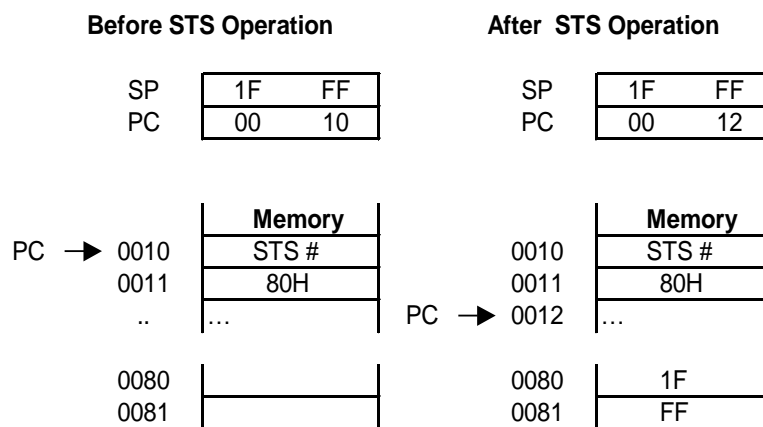

Figure 6.5 - Store Stack Pointer (STS) instruction
**STS** instruction stores the contents of the stack pointer into two contiguous memory locations. This instruction offers direct, indexed and extended addressing modes. The **STS** instruction stores the high byte of the stack pointer into the specified memory address and the low byte into the memory address immediately following it. In figure 6.5, the contents of the stack pointer is 1FFFH and the memory address to store the stack pointer is given as 0080H in the **STS #80H** instruction. After **STS** instruction is executed, memory location 0080H contains the high byte of stack pointer (1FH) and memory location 0081H contains the low byte of stack pointer (FFH).